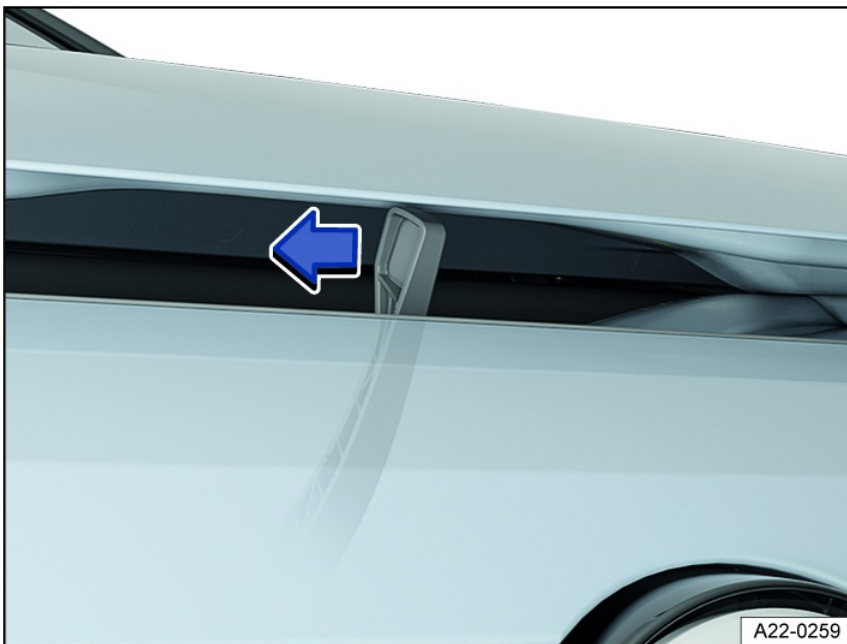

Fig. 157 On the hood: Opening lever.
2. To open the hood fully, slightly lift the hood while pushing the actuating lever in the direction of the arrow fig. 157.